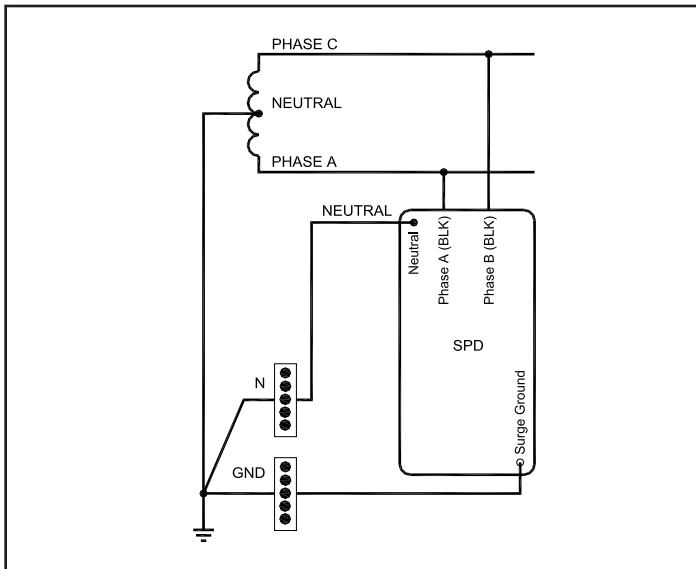

Figure 5. Split Phase Units
5. Select the correct wiring diagram for the SPD you are installing. You must refer to this diagram while wiring the SPD. See Figures 5, 6, and 7 on page 5.